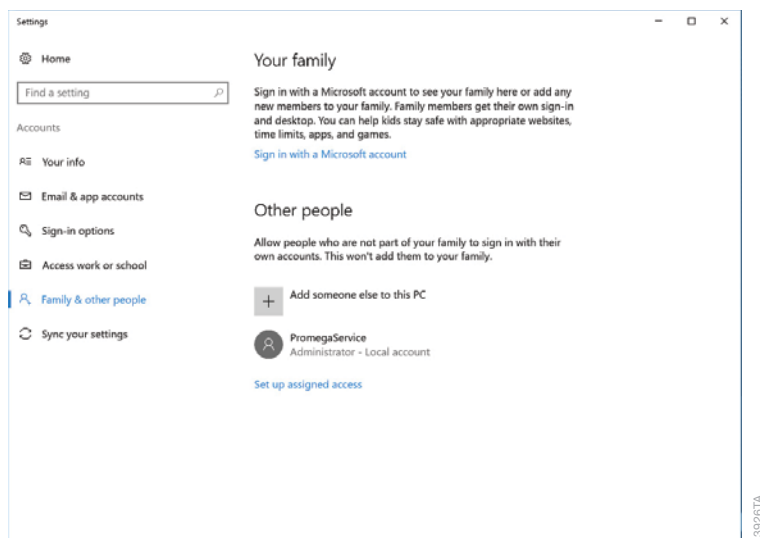

Figure 51. Managing accounts. Windows® user accounts can be created, removed and managed from the 'Family & other people' tab of the 'Accounts' screen.
4. From the list on the left side of the screen, select the **Family & other people** button to display account settings for this PC (Figure 51).